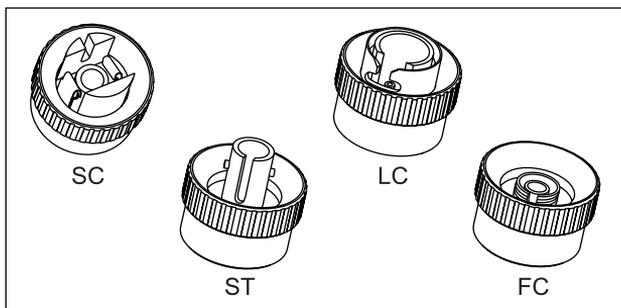

Figure 6-3. SC, ST, LC, and FC Connector Adapters
- ① Button for activating the visual fault locator (②) and output port (④). See “Using the Visual Fault Locator” in Chapter 7 and “Autotest in Far End Source Mode” on page 6-34.
- ② Universal fiber connector (with dust cap) for the visual fault locator output. The connector accepts 2.5 mm ferrules. The LED below the connector indicates the locator’s mode (continuous or blinking).
- ③ Input connector with dust cap. Receives optical signals for loss, length, and power measurements. You can change the connector adapter to match the connectors on the fiber under test. See Figure 6-3.
- ④ SC output connector with dust cap. Transmits optical signals for loss and length measurements.
You can change the fiber module's input connector adapter to connect to SC, ST, LC, and FC fiber connectors (Figure 6-3). Additional adapter styles may be available. Check the Fluke Networks web site for updates.